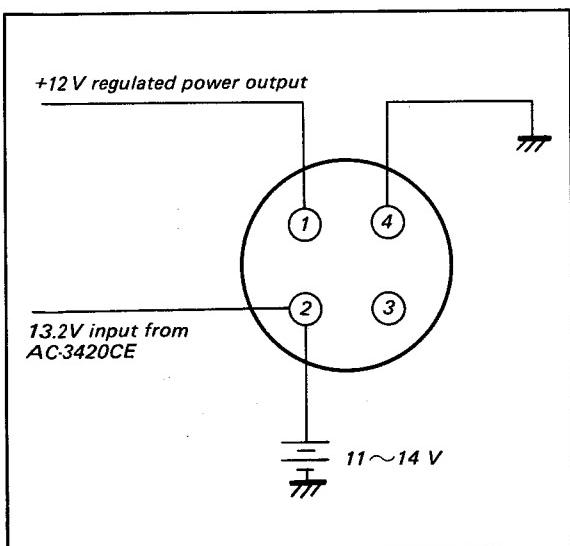
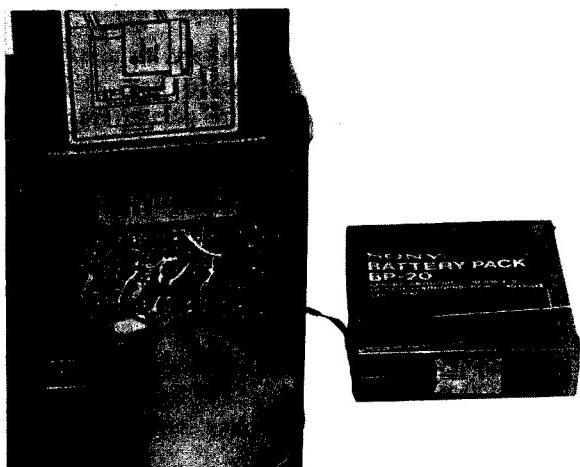

Fig. 1-4. AC-3420CE connection
Fig. 1-5
**Camera connector:** An AVC-3420CE camera or CVM series monitor can be connected (with a VMC-1M cable). Fig. 1-4 shows the camera connections, Fig. 1-5 TV connections.